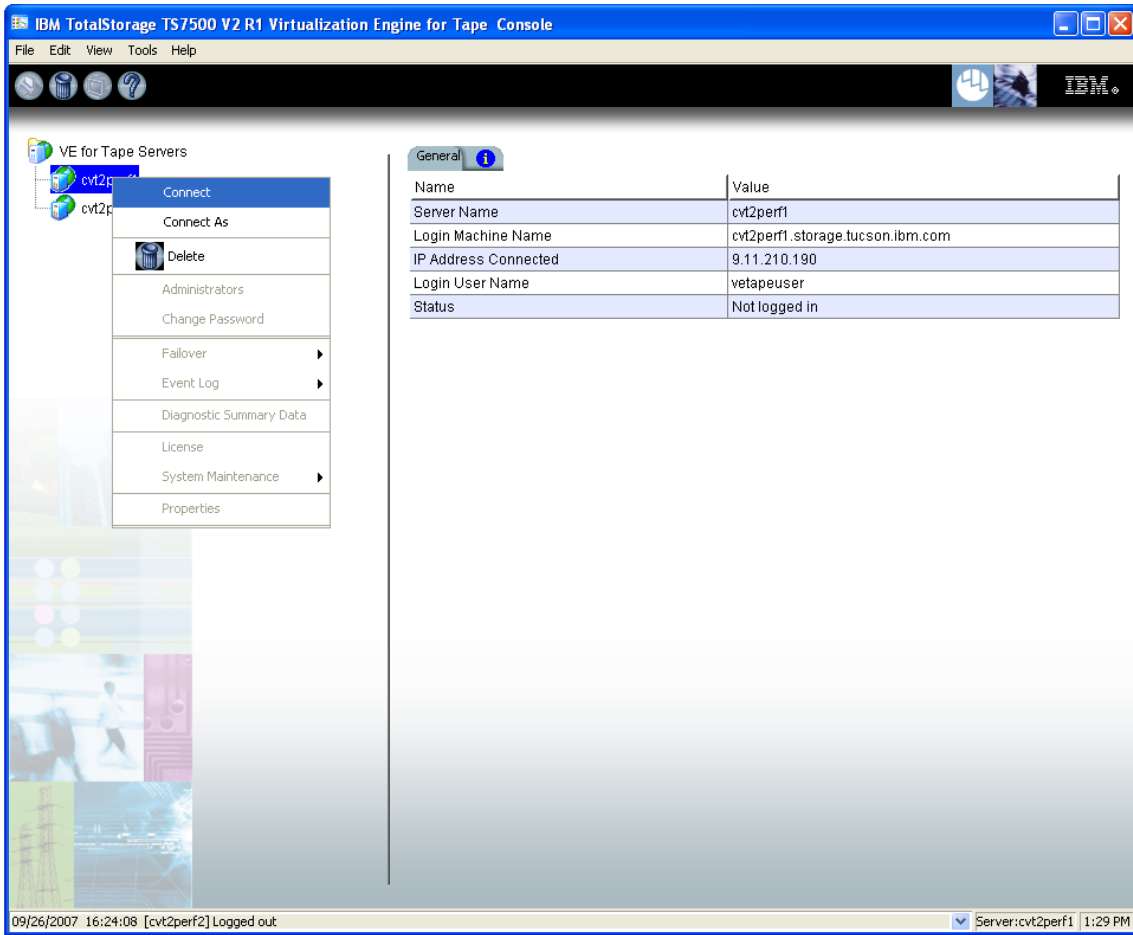

Figure-12
9. Once the server software has completed the restart (approximately 2 to 5 minutes) you will be able connect to the VE for Tape server from the **VE for Tape Console** application (Figure-12).